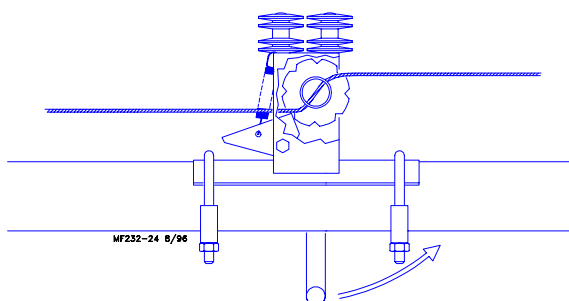

Figure 42. Winch Cable Wrapping around Winch Drum (side view)
3. Thread half of the cable through the hole in the winch drum. Turn the winch handle clockwise two revolutions to wind some cable onto the winch drum. See Figure 42.